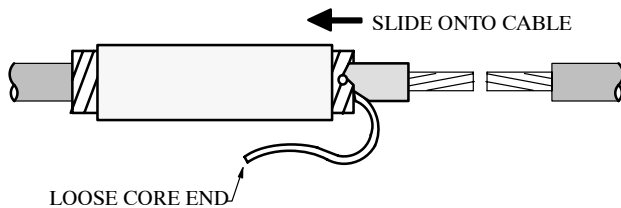

FIGURE 3
3. Slide cold shrink splice onto one of the cables. See Figure 3.